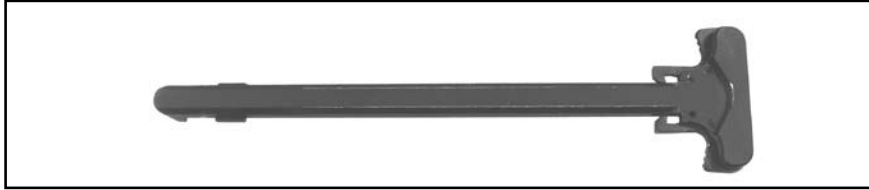

Fig. 58 – Lubrication of MR762A1 Charging Handle
5. Apply a medium coat of lubricant to the interior and exterior surfaces of the charging handle (Fig. 58).